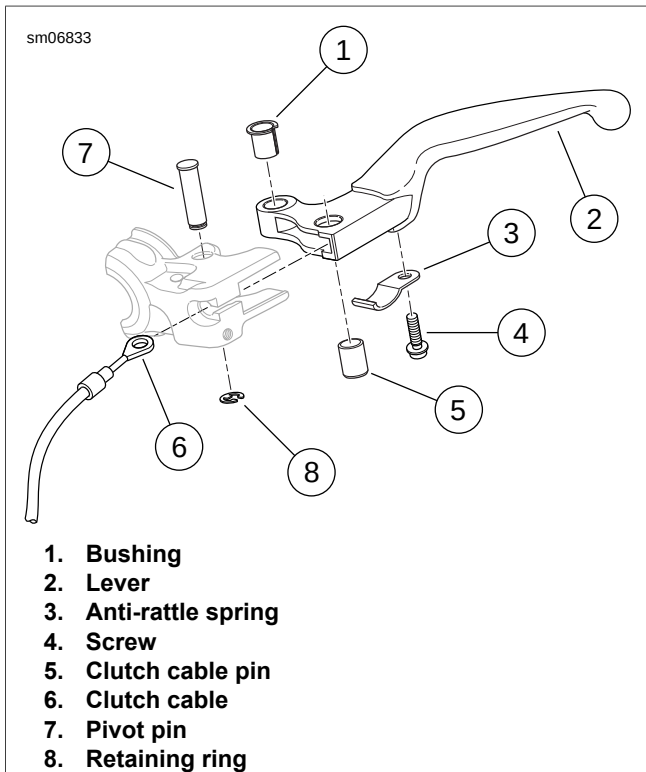

Figure 2-181. Clutch Lever and Cable
- See Figure 2-181. Remove retaining ring (8) and pivot pin (7). Discard retaining ring.
- Remove clutch lever (2) from clutch lever bracket.
- Remove clutch cable pin (5). Disconnect clutch cable (6) upper section from lever.